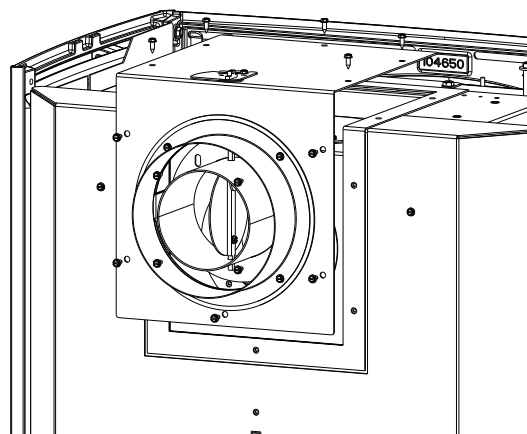

Figure 6. Rear exit orientation.
3. Orient the vent adaptor outlet to the rear and secure the assembly using the screws removed previously. Fig. 6.